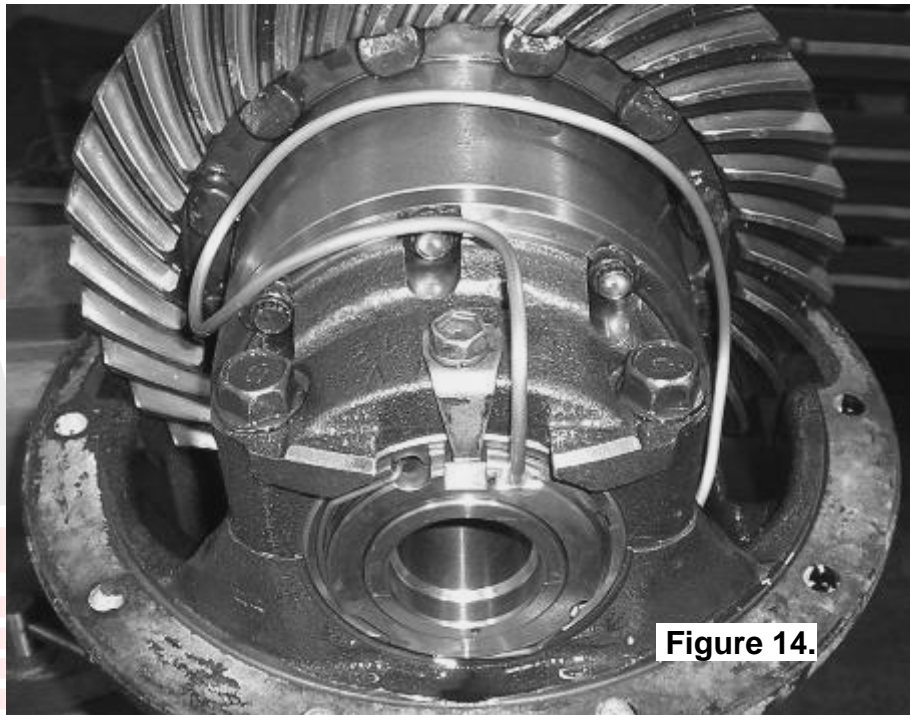

Figure 14.
- With the seal housing tube now firmly secured into the bulkhead fitting, bend the tube so that it closely follows the profile of the differential. (Figs.14. & 15.)